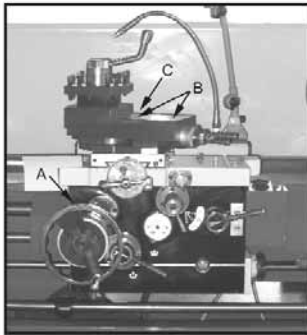

Fig. 7
- Saddle:** Lubricate ball oiler (A, Fig. 7) on handwheel shaft with Mobil DTE® Oil Heavy Medium oil daily.
- Compound Rest:** Lubricate four ball oilers (B, Fig. 7) on top of compound slide with Mobil DTE® Oil Heavy Medium oil daily.
- Cross Slide:** Lubricate one ball oiler (C, Fig. 7) with Mobil DTE® Oil Heavy Medium oil daily.